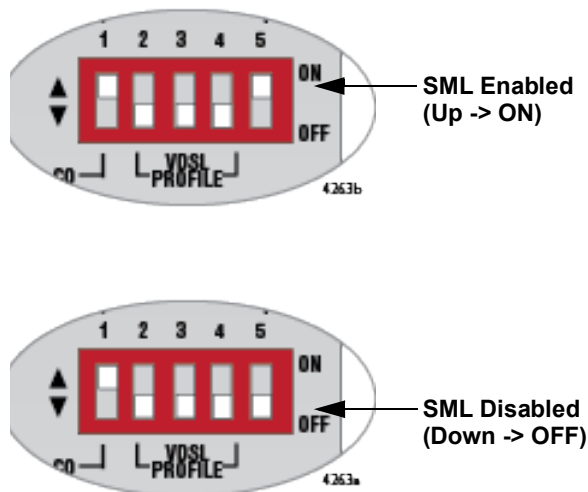

Figure 7. DIP Switch 5 - SML Configuration
- See Figure 7 for the SML configuration settings